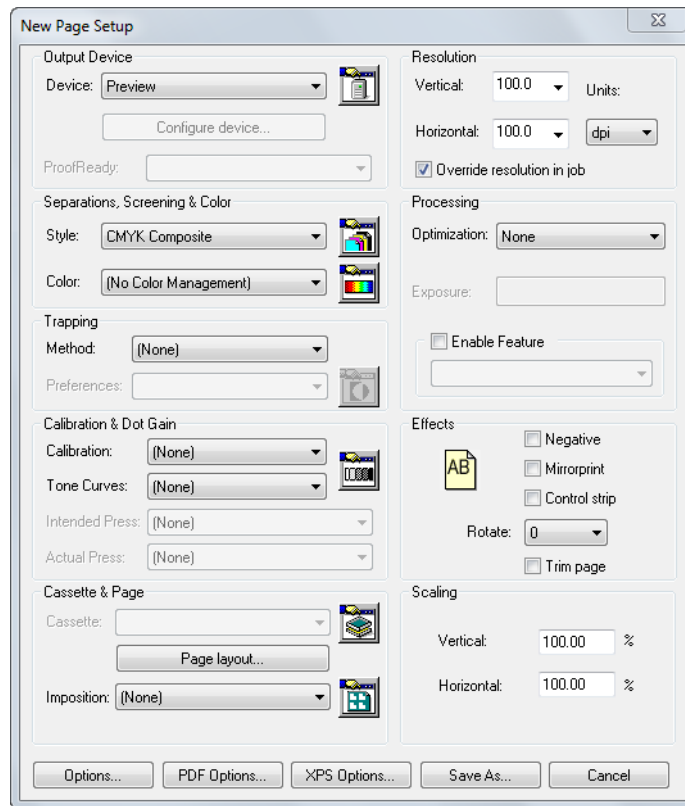

Figure 3.2 New Page Setup dialog box
3. In the Edit Page Setup dialog box, shown in Figure 3.2, set the **Device** to None and the **Vertical** and **Horizontal** resolutions to something small, say 72 dpi. If you change the **Device**, you must choose a separations style listed in the **Style** drop-down list and, for some devices, a cassette name from the **Cassette** drop-down list.
2. In the Page Setup Manager dialog box, select **Default Page Setup** and click **Copy** to display the New Page Setup dialog box. The New Page Setup dialog box is very similar to the Edit Page Setup dialog box, shown in Figure 3.2 on page 61.